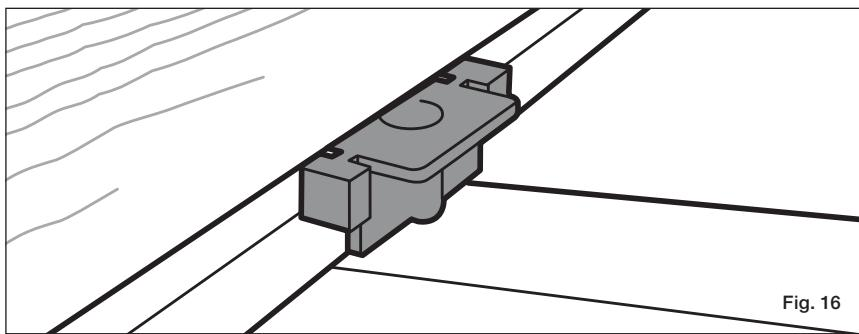

Fig. 16
Step 6 Install a Stowaway hidden fastener clip over the screw and centered over the joist. Fasten using preset screw at a 90° angle through the Stowaway hidden fastener and drive flush with the clip (Fig. 16). The fastener wings must remain level with the joist for the next board to fit correctly (Fig. 17).